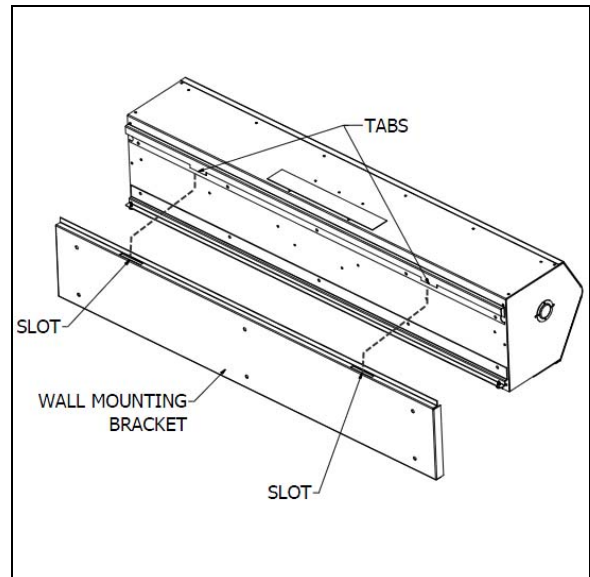

FIG. 2
4. Align the tabs on the rear of the unit with the slots provided on the wall mounting plate (FIG. 2). The bottom flange on the unit must also drop in the bottom